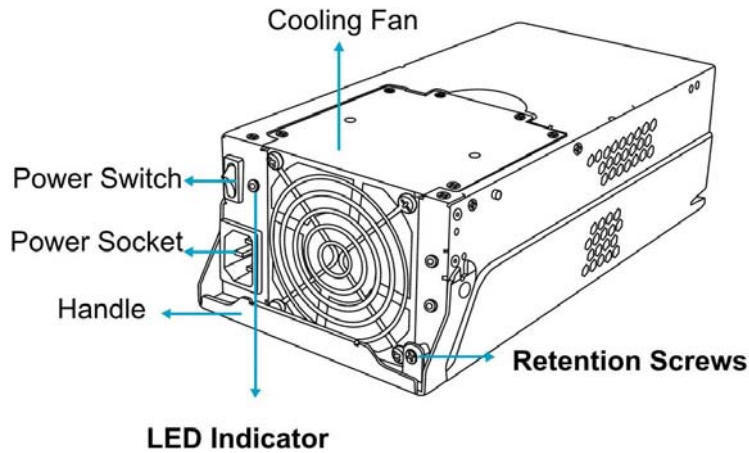

Figure 5-9: PSU Parts Identification
Step 1. **Power off the PSU.** The power switch is located on each PSU's rear-facing panel. (See *Figure 5-9*)